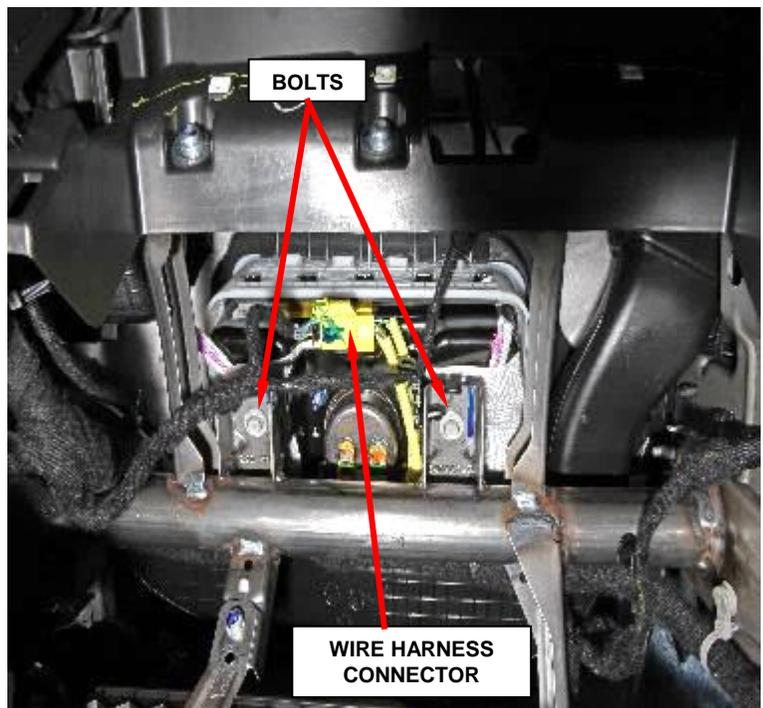

Figure 5 - PAB Mounting Bolts
10. Reach through the instrument panel glove box opening to access and remove the two bolts that secure the Passenger Airbag (PAB) lower mounting bracket to the instrument panel structural support (Figure 5).
11. Reach through the instrument panel glove box opening to access and disconnect the instrument panel wire harness connector from the PAB jumper wire harness connector (Figure 5).
connector from the PAB jumper wire harness connector (Figure 5).